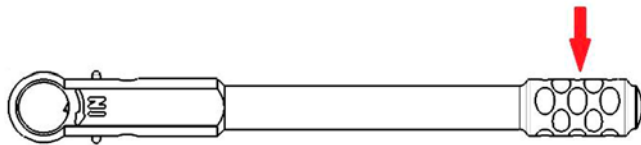

Figure 2
- The pressure point is only on the end of the handle (see arrow in Figure 2).
- Apply pressure in direction of arrow with only one finger. (see arrow in Figure 2).